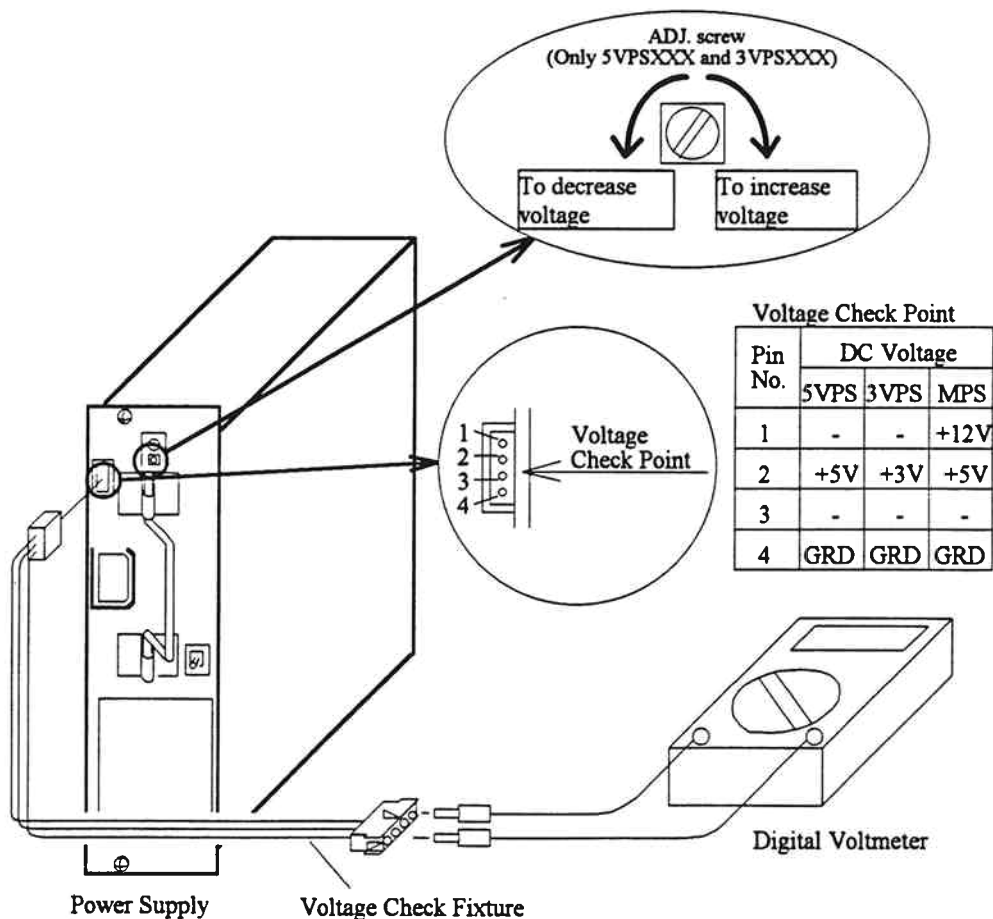

Fig. 9.1-3 Location of ADJ. Screw (PS Type 'xxxx-V')
- Fig. 9.1-3 'Location of ADJ. Screw (PS Type 'xxxx-V') on PERIOD 02-30